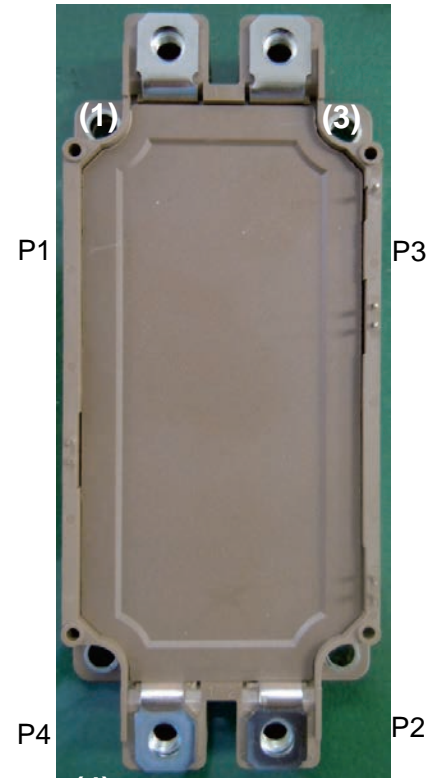

Fig.1 Mounting holes of M254 package
- (a) The minimum and maximum screw torque for mounting screws (M5) indicated as (1) – (4) in Fig.1 are:
- (b) Pre-fastening is recommended with 1/3 of the final torque with sequence of (1)–(2)–(3)–(4) or (4)–(3)–(2)–(1) in Fig.1.
- (c) Final torque must be within specified force of 2.5 to 3.5 Nm with sequence of (1)–(2)–(3)–(4) or (4)–(3)–(2)–(1) in Fig.1.
- (a) The minimum and maximum torque for screwing (P1) – (P4) indicated in Fig. 1 with M2.6 self-tapping screw are:
- (b) Pre-fastening is recommended with 1/3 of the final torque with sequence of (P1)–(P2)–(P3)–(P4) or (P4)–(P3)–(P2)–(P1) in Fig.1.
- (c) Final torque must be within specified torque of 0.4 to 0.5Nm with sequence (P1)–(P2)–(P3)–(P4) or (P4)–(P3)–(P2)–(P1) in Fig.1. The maximum screw rotation speed is 300 rpm.